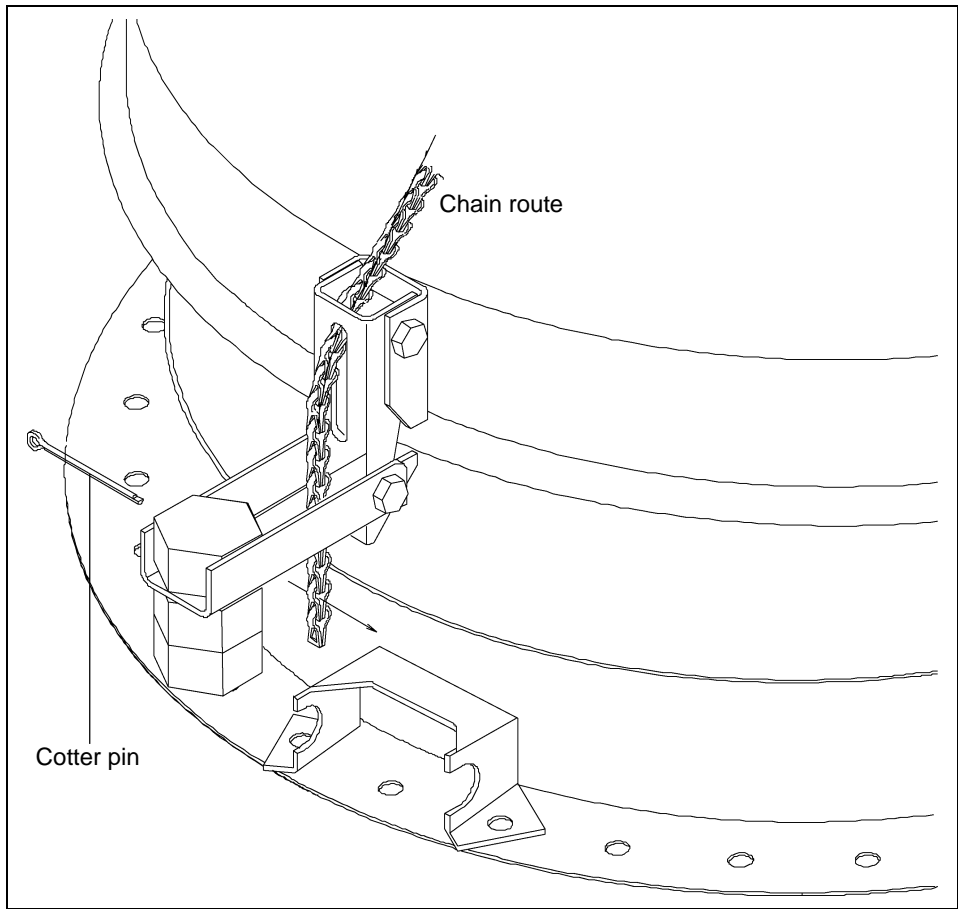

Figure 2 Old Style Flat Lid
1. Disassemble existing lid. Start by detaching the current cotter pins located in the ground control chain on latch side of the bin lid. Retain the end of the chain for easy access when re-attaching the chain to the new bin lid lever arm. (See Figure 2 on Page 2.) Ensure there is a functional roof eave bracket in place to use with the new lid.